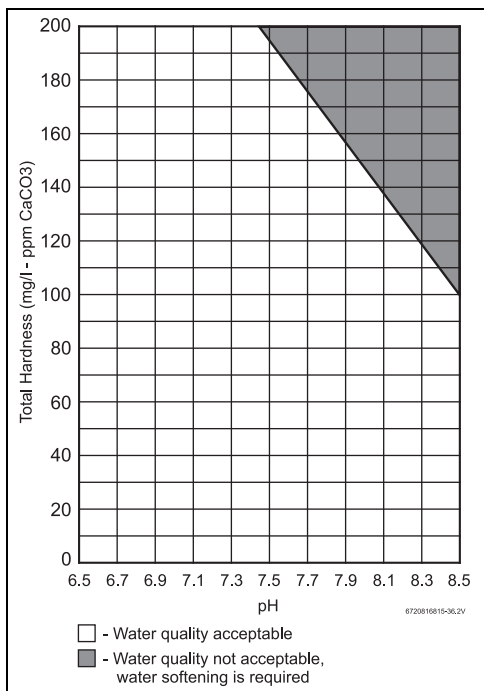

Fig. 26 Water total hardness and pH values
Water quality can have an impact on appliance longevity. Water supplied to the Greentherm T9800 SE must be in accordance with table 17 and fig. 26.
For water analysis data call your local water department, or if on a well, have well water analyzed periodically. Heavy scale will form if the combination of water total hardness and pH exceeds the values specified in fig. 26 (grey area), Bosch recommends consulting a local water treatment professional for water softening/conditioning options.
1. Total Hardness and pH maximum values must be evaluated in combination. Indicated maximum values will be reduced according to fig. 26.